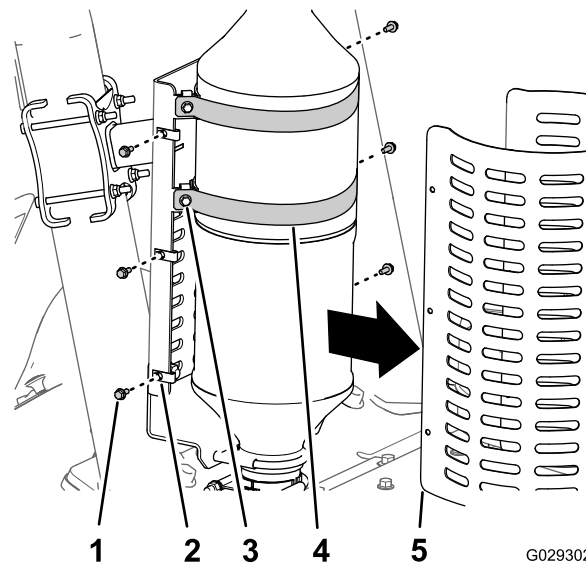

Figure 20
- A. Remove the 6 flange-head bolts (6 x 16 mm) that secure the heatshield to the exhaust-system mount and remove the heatshield (Figure 20).
- B. Loosen the flange-head bolts (6 x 30 mm) that secure the muffler straps to the exhaust-system mount (Figure 20).